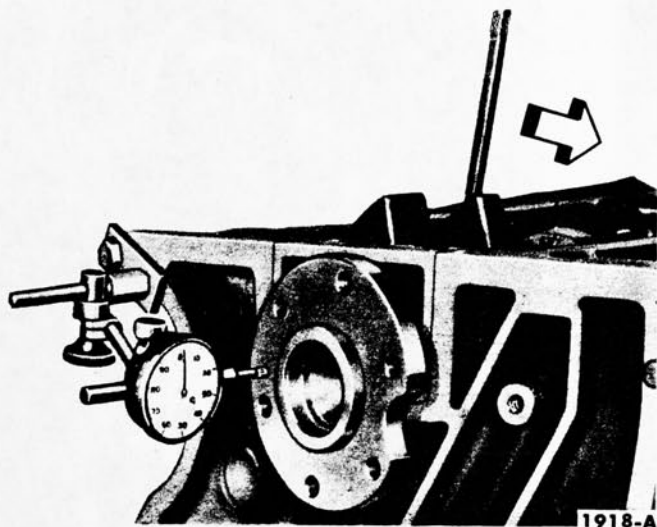

FIG. 37—Crankshaft End Play
8. Force the crankshaft toward the rear of the engine. Install a dial indicator so the contact point rests against the crankshaft flange and the indicator axis is parallel to the crankshaft axis (Fig. 37). Set the dial on zero, then push the crankshaft forward and note the reading on the dial.